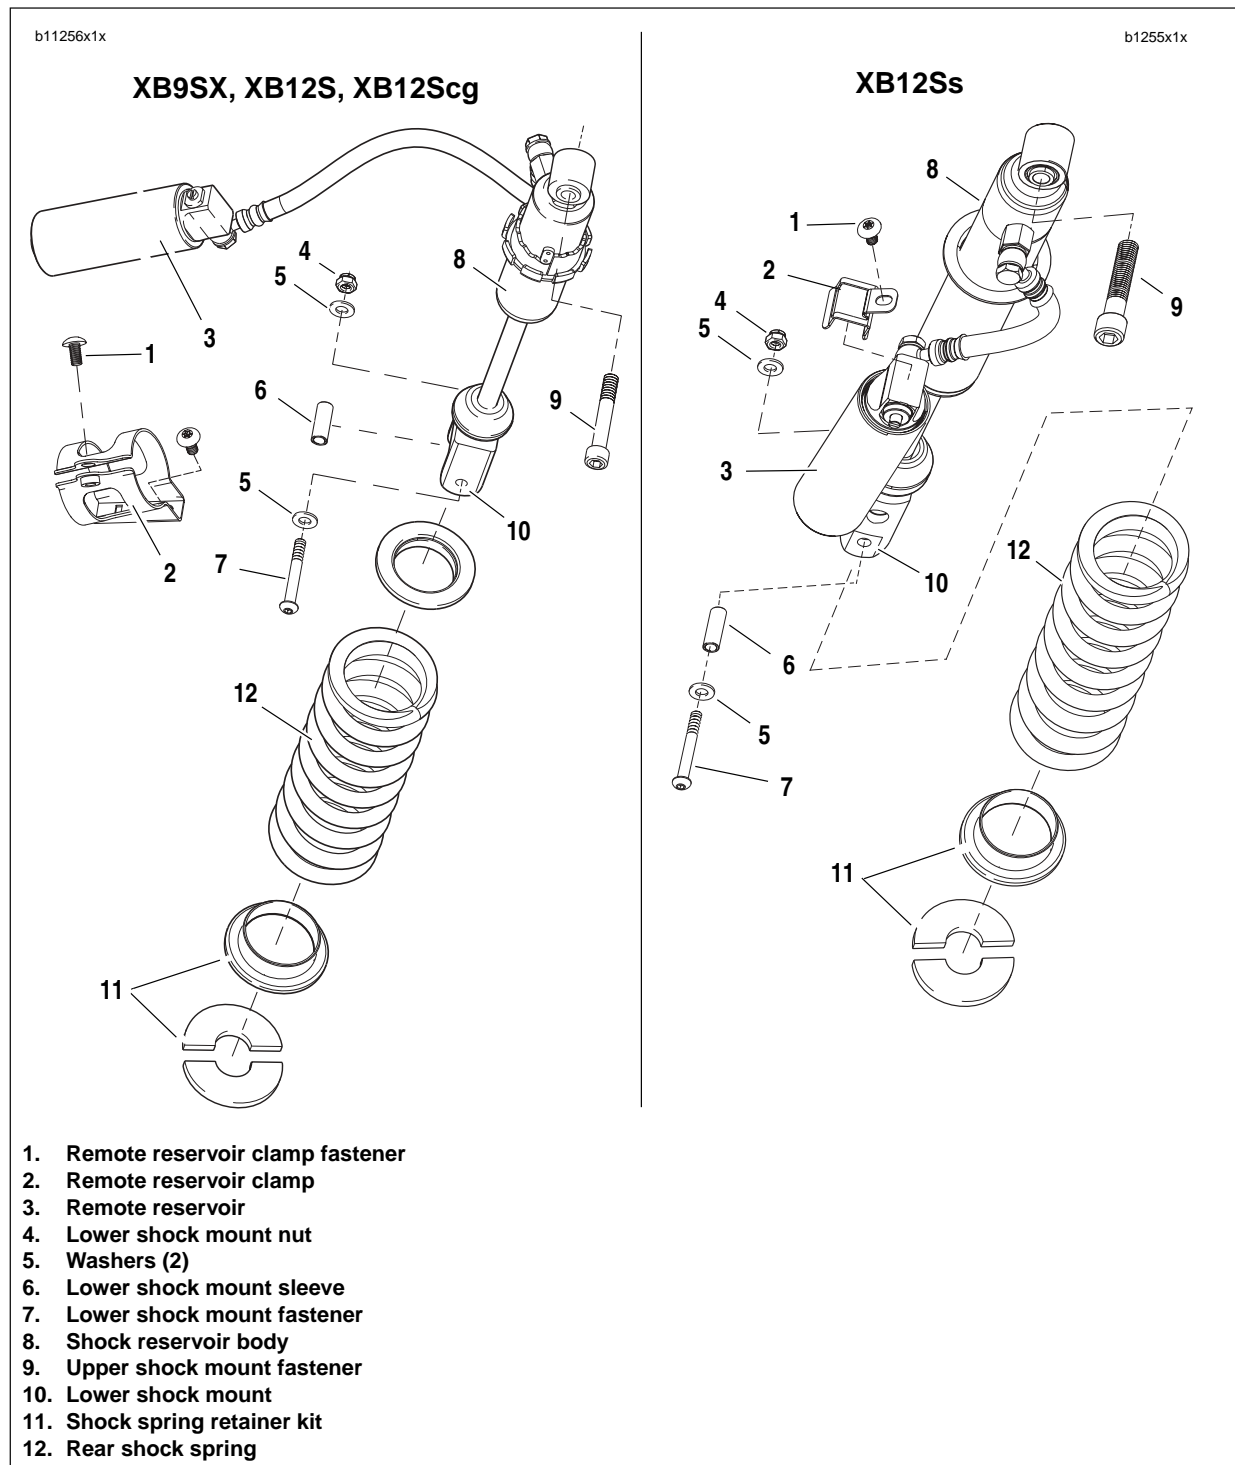

Figure 2-92. Rear Shock Absorber Assembly
5. See Figure 2-92. Remove the nut (4) and washer (5) from the lower shock bolt and raise scissor jack until the lower bolt can be removed by hand.
6. After removing both shock fasteners (7, 9) and reservoir clamp fastener (1), remove rear shock assembly and reservoir.
2. See Figure 2-92. Install rear shock assembly in upper shock mount. Install fastener (9) and tighten to 48-52 ft-lbs (65-70.5 Nm).
3. Install lower shock mount with fasteners (4, 5, 7) and lower shock mount sleeve (6) and tighten to 15-17 ft-lbs (20.3-23 Nm).